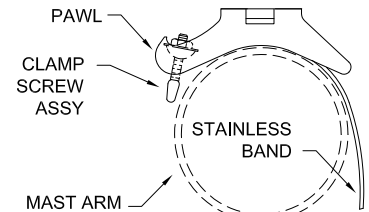

Figure 1
6. Place screw assemblies in the outside pawls of the clamp body, as shown in Fig. 1, with the Hex Nuts flush with the end of the clamp screw threads and repeat steps 2 through 5 for both outer bands.